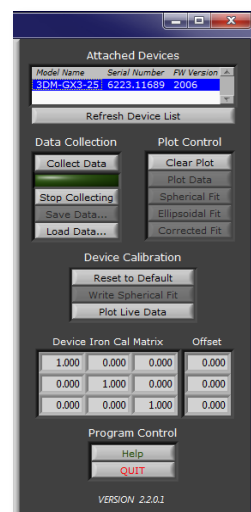

Figure 1: Attached Devices frame
3. The Main window will appear and the inertial sensor Model Name, Serial Number and Firmware Version will be displayed in the Attached Devices frame, as shown in Figure 1. If the sensor does not appear, click Refresh Device List to establish communication. If still no communication, check your communication and power cables, power source, etc. and correct the fault.